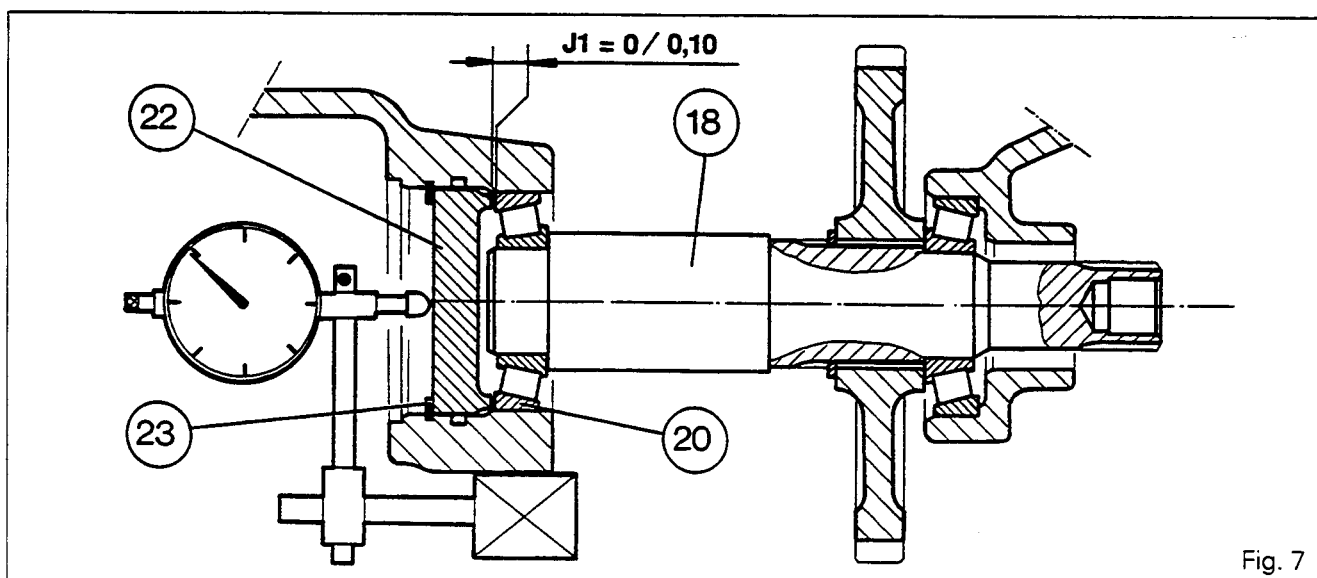

Fig. 7
53. Place the tip of the dial gauge against the spacer (22) (Fig. 7).